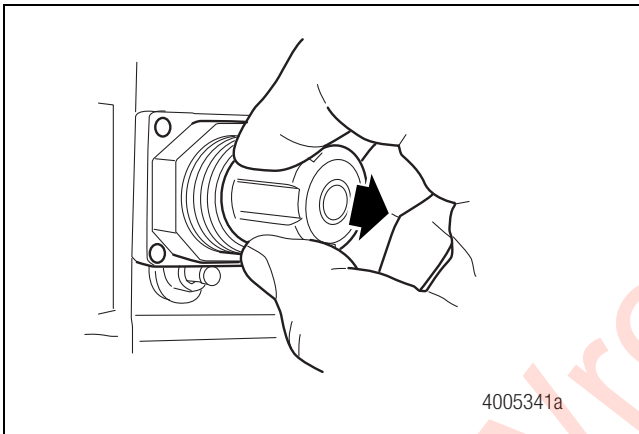

Figure 3.17
1. Unlock the regulator knob by pulling on the knob outward. You should hear and feel a slight click. Figure 3.17.